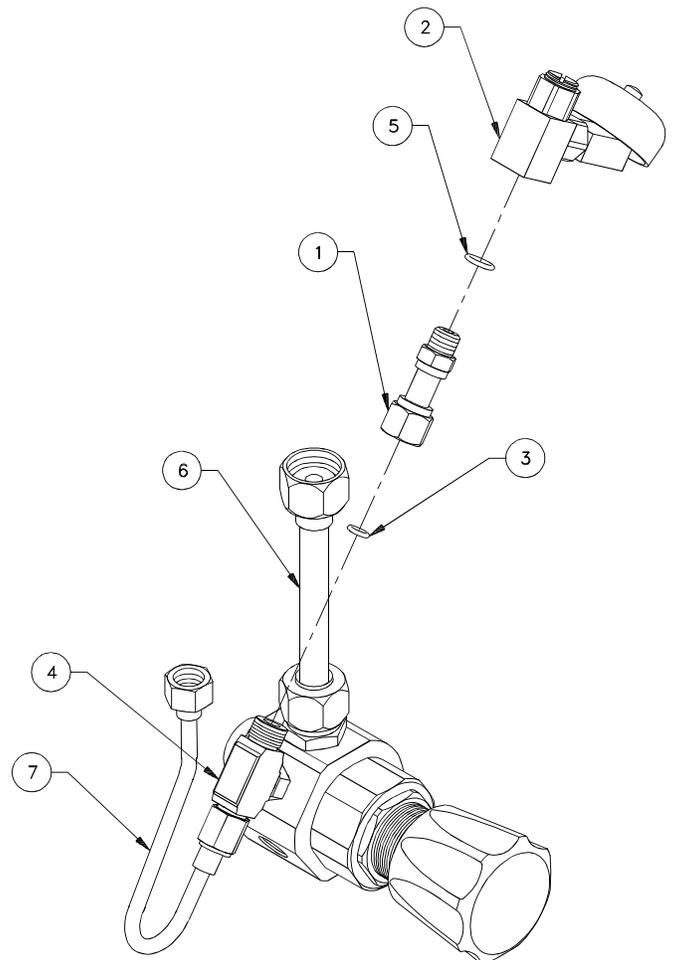

Figure 6-7. LP Alarm (F-024)
6.5.2.8 LP Alarm (F-024) Removal and Replacement (Figure 6-7).
- (1) Install O-ring (5) on union (1). Install union (1) on alarm (2); hand-tighten.
- (2) Place LP alarm (2) on work table; hold body with 3/4" wrench and tighten union (1) with 9/16" wrench.
- (3) Install O-ring (3) in tee (4).
- (4) Situate alarm as shown in Figure 6-7, positioning LP alarm body beneath tube (6). Hand-tighten lower union nut (1) onto tee (4).
- (5) Grip LP alarm (2) and tube (6) and tighten lower union nut (1) with 11/16" wrench. Ensure alarm does not touch tube (6) or LP gauge isolation valve (ALP-V207).
- (6) Check to ensure tee (4) retaining nut is tight with 9/16" wrench and tube (7) nut is tight against tee (4) with 11/16" wrench.
- (7) Conduct system tightness test IAW paragraph 6.5.2.2, modified as follows: